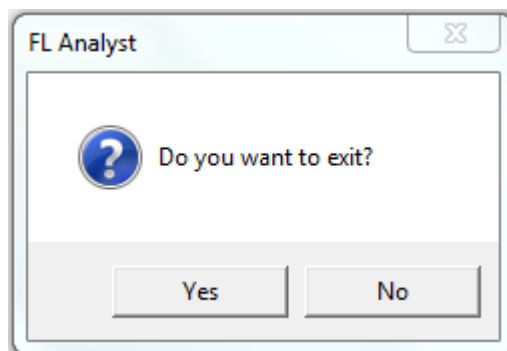

Figure 3-2 Dialog box of the exit of the software
- 1) Click the “×” in the upper right corner of the software interface, and the dialog box as shown in Figure 3-2 will appear;